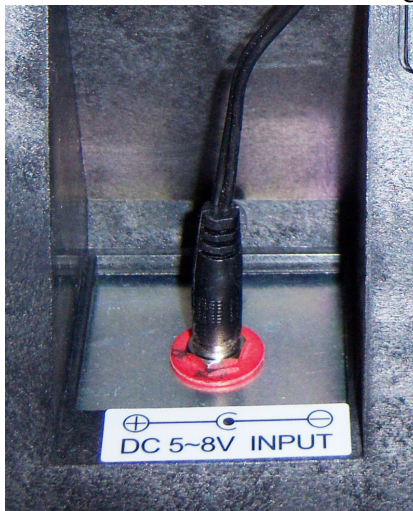

Figure 2-2. AC Plug-in Location on Underside of DC-782
1. Connect the AC power cord under the scale base as shown in Figure 2-2.